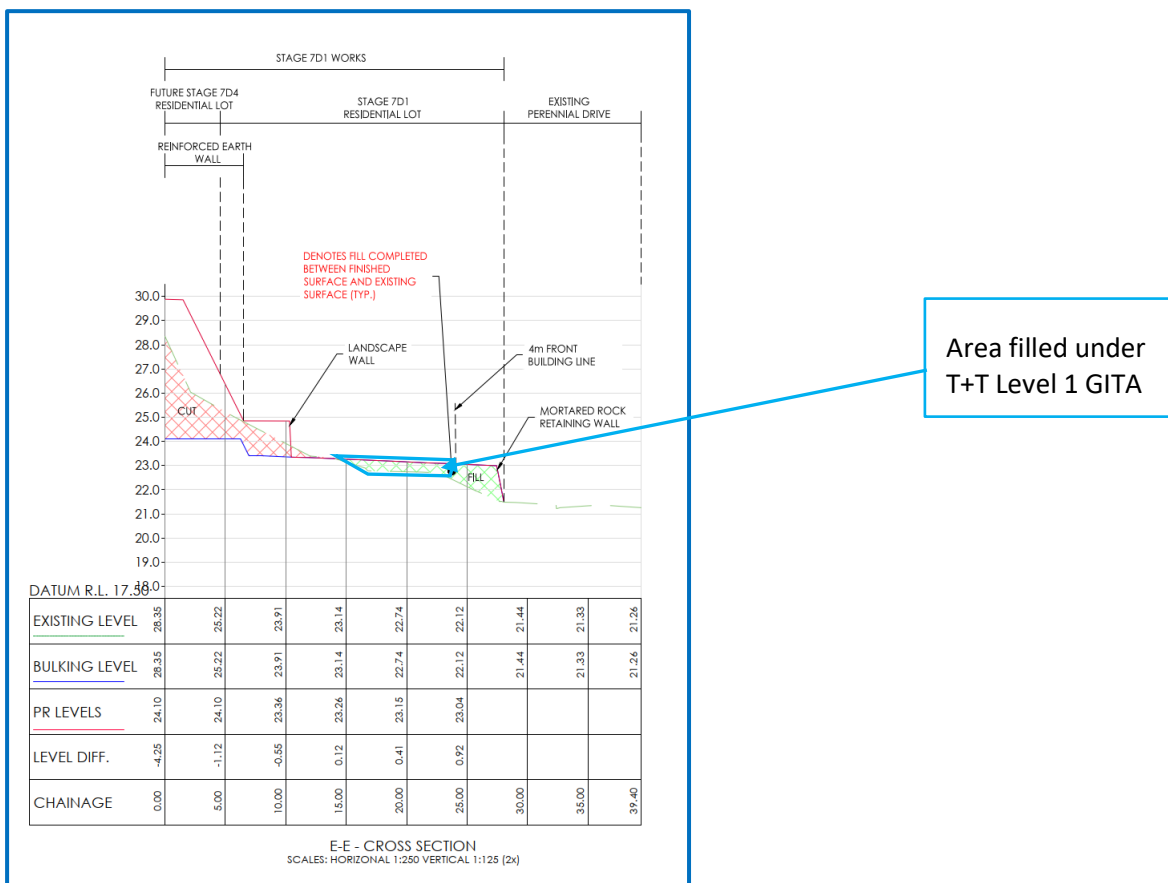

Figure 2.5: Extract from CJ Arms drawing titled 'Cross Sections', Project No.15006, Drawing No.9920, Rev 1
- Cross Sections drawings (2 pages) prepared by CJ Arms titled 'Cross Sections – Sheet 1', Project No.15006, Drawing No.9920, Rev 1, dated 24.01.2024, attached in Appendix D. Extract of the typical cross sections (in this case Section E-E') is shown in Figure 2.5.